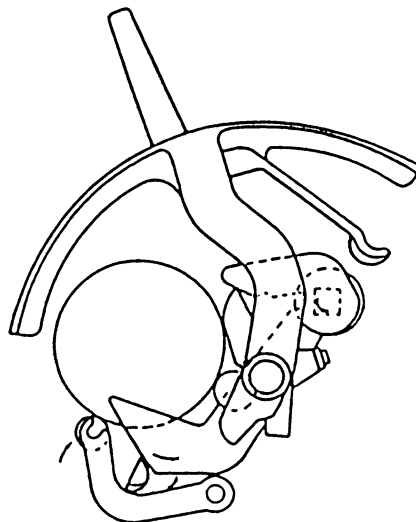

Figure 3-14
(7) Paper clamp mechanism (See Figure 3-14)